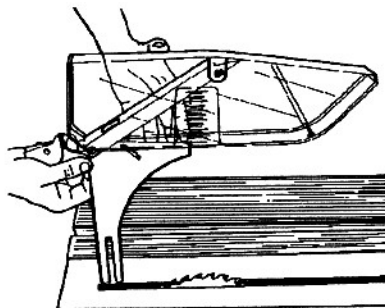
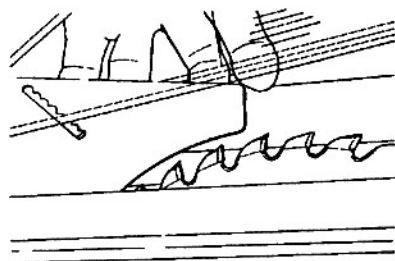

Fig. D-3
Fig. D-4
1. Make sure the Sawsmith 2000 is turned off and unplugged. Insert the riving knife in the guard clamp, as in Fig. D-3, and adjust it so it is approximately 1/8" above the blade teeth, as indicated in Fig. D-4.